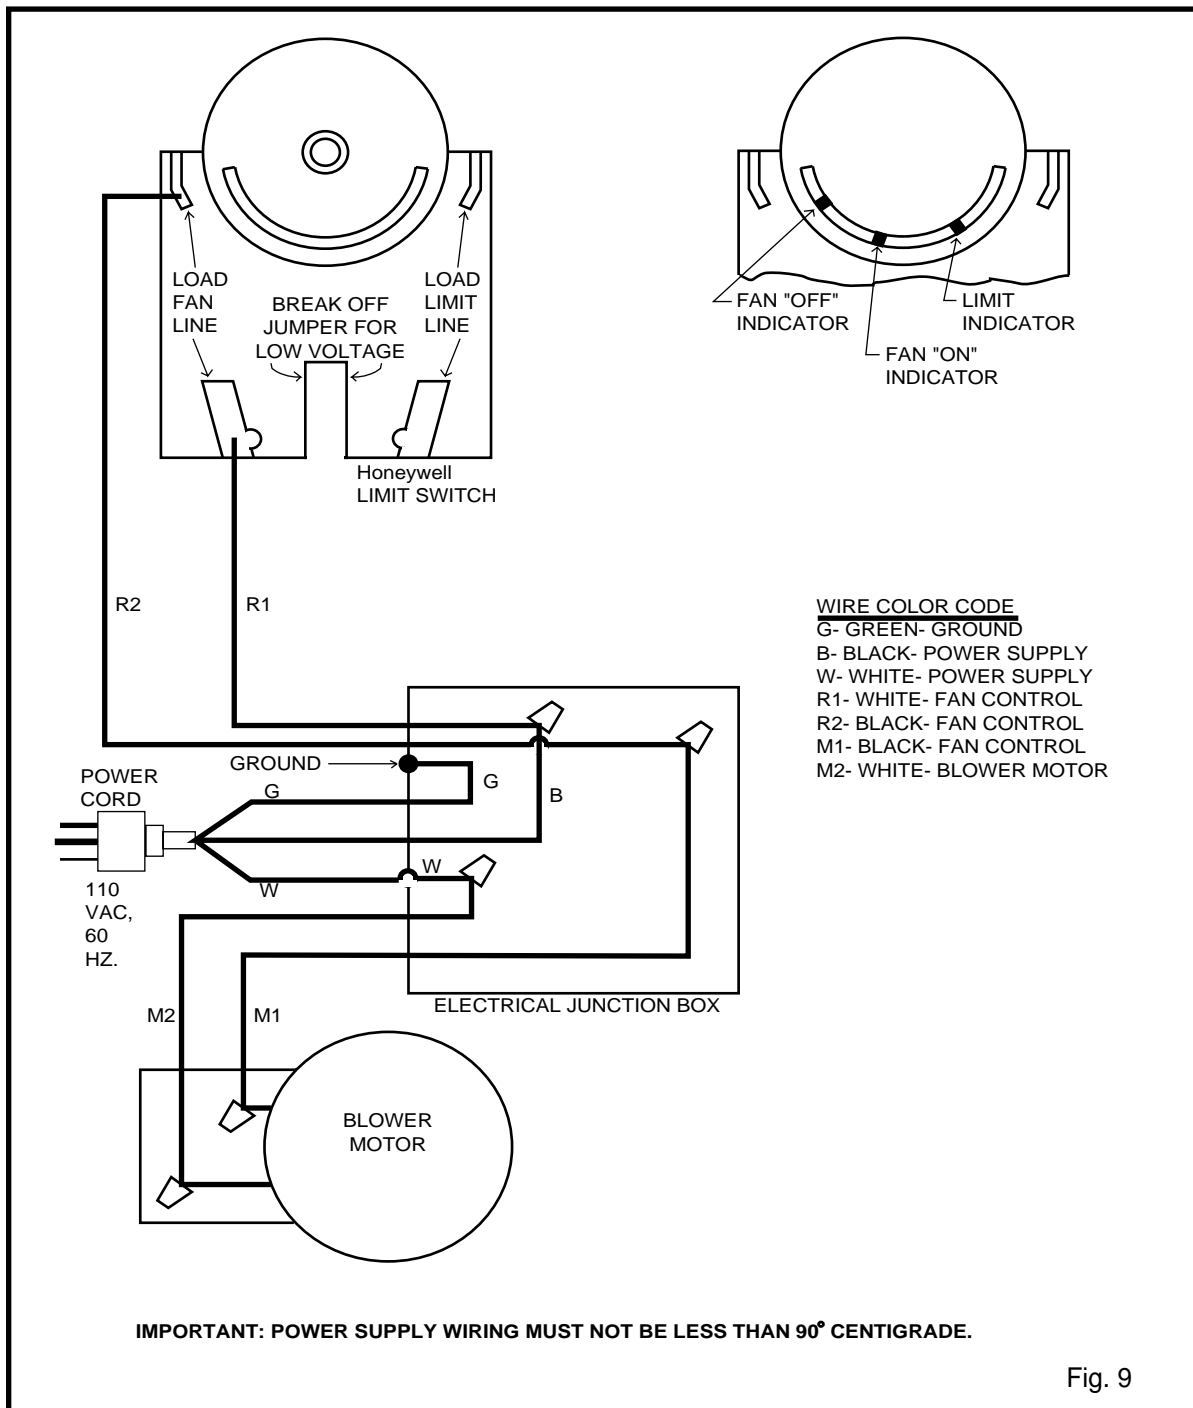

Fig. 9
6. Complete all wiring in 4" junction box by reference to wiring diagram, Fig. 9, Page 11. After wiring is completed, remember to replace junction box cover.